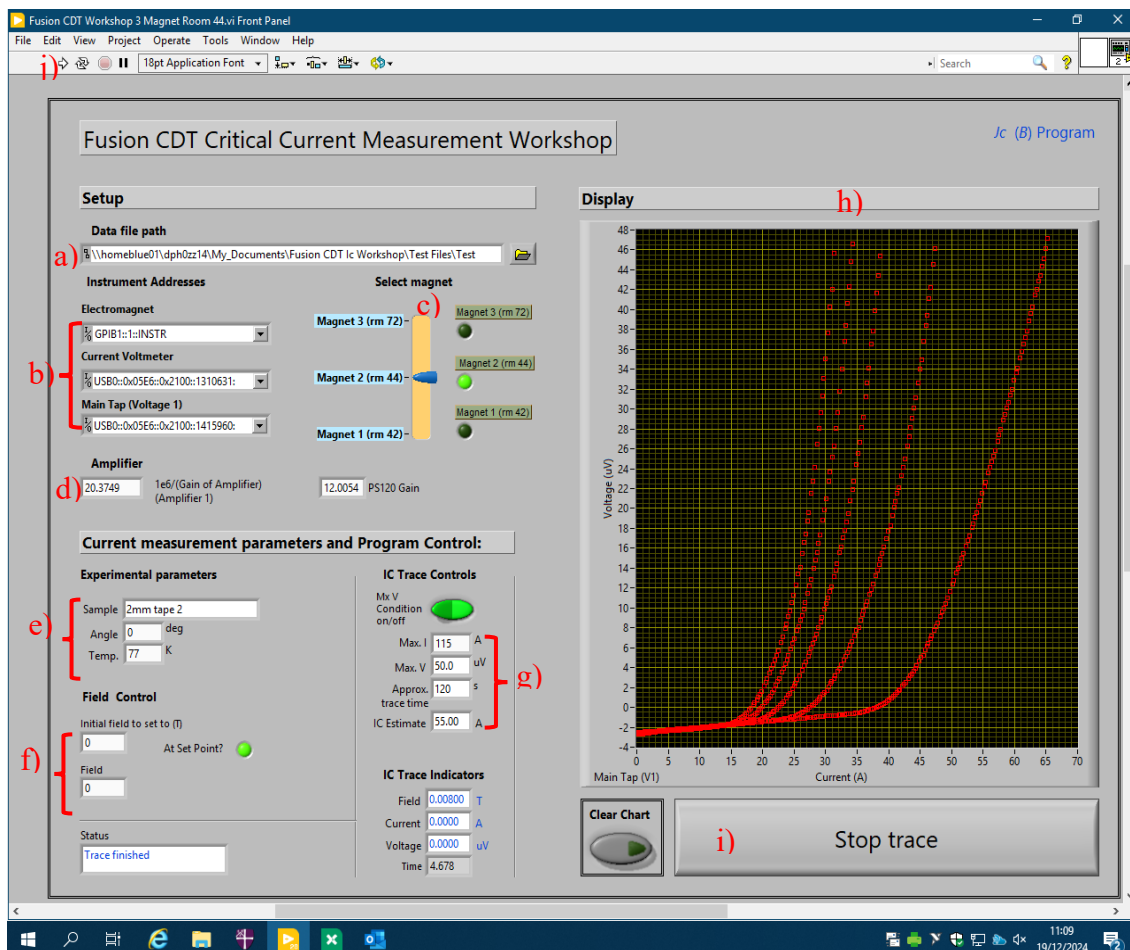

Fig. 8: An annotated screenshot of the Labview program used for the measurements. The annotated letters are explained below.
- 2) The measurement will be controlled using a Labview program – the power supply and voltage measurements are all controlled and read automatically by the computer. You can (and should!) also monitor the measurement data in real time. Refer to figure 8 for an illustration of the program you will be using, and follow the steps outlined.